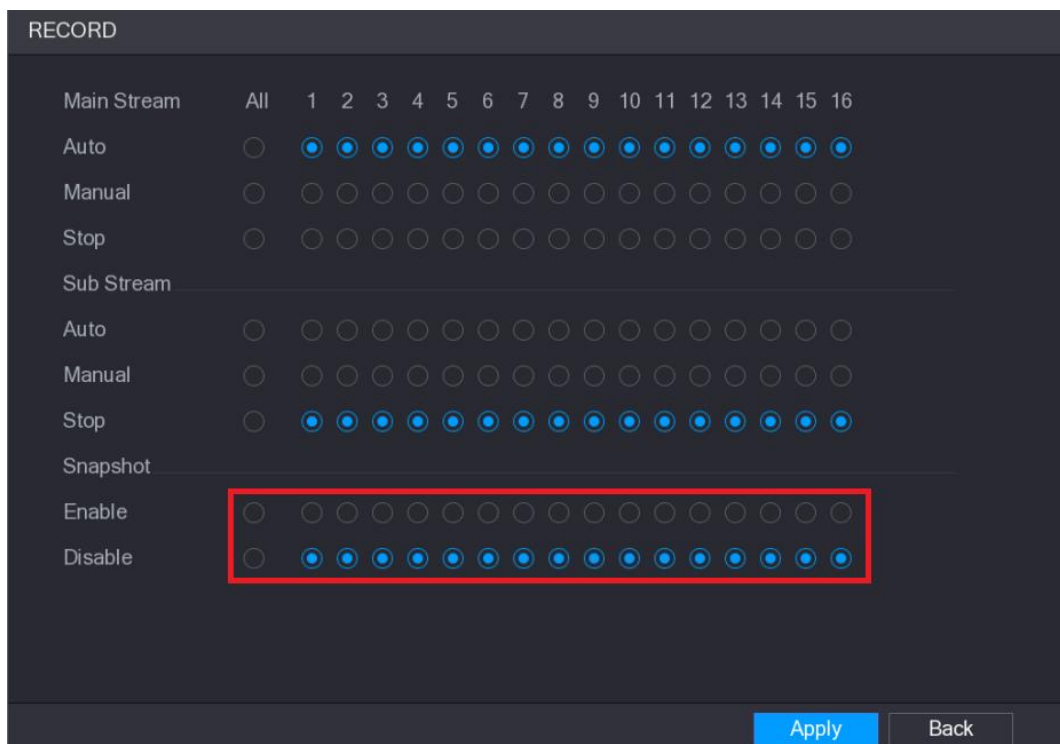

Figure 5-86
Step 3 In the **Snapshot** area, enable the snapshot for the channels if needed. See Figure 5-86.